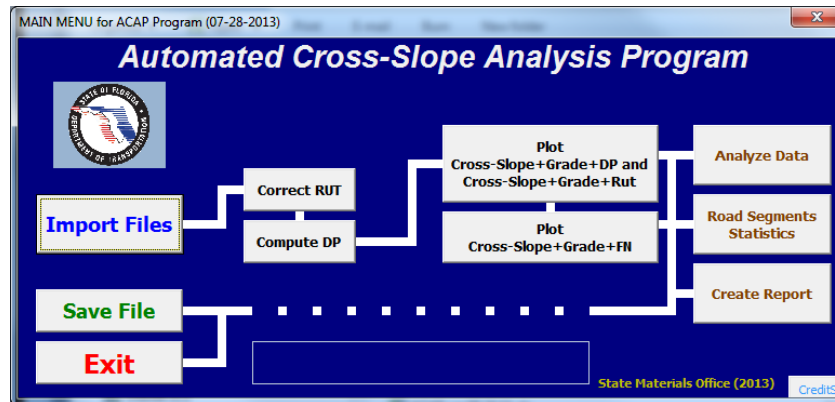
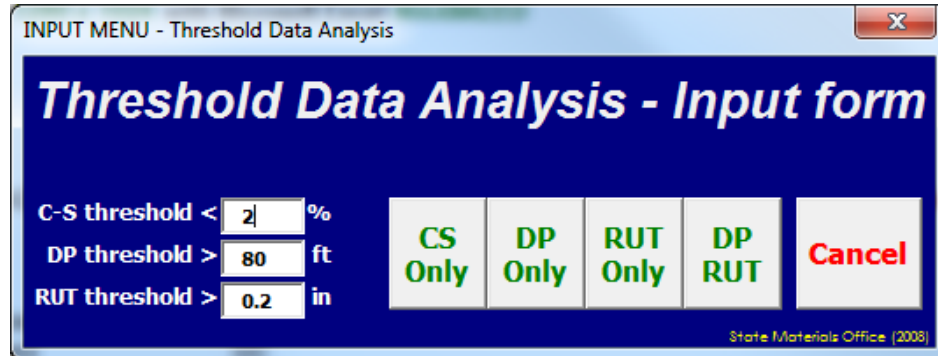
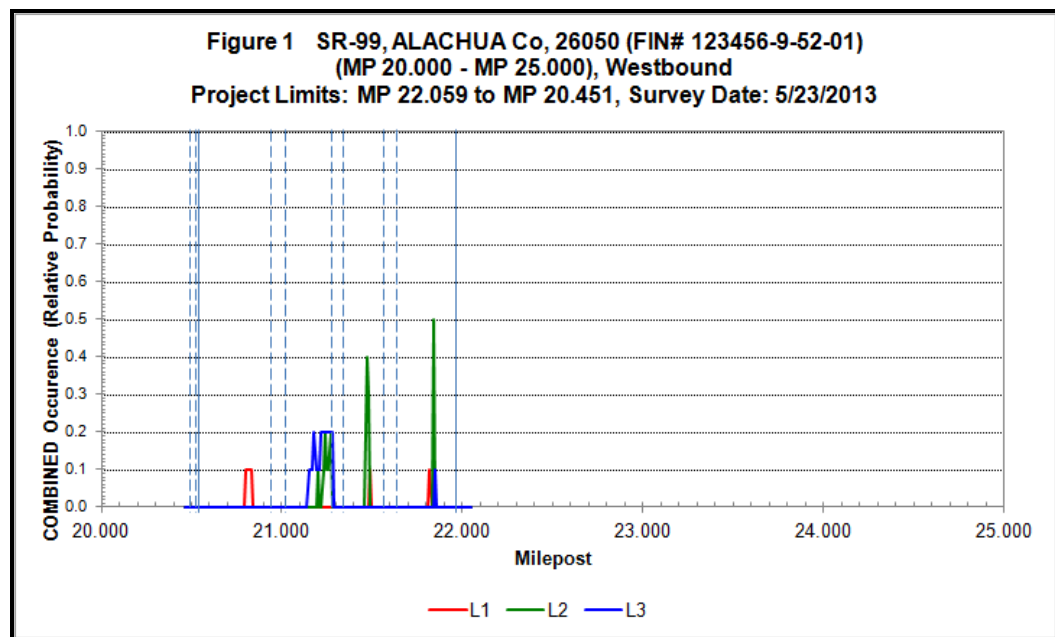

Figure 2. Main Menu of ACAP Program
Figure 5. Data Analysis Input Form
Figure 6. Resulting graph from data analysis based on preset threshold values
4. Click the **START** button inside the main file. The ACAP will load the main menu, as shown in Figure 2.
1. **Threshold Data Analysis** – Click the on the *Analyze Data* radio button from the Main Menu (Figure 2). The **Threshold Data Analysis** input window will appear (Figure 5). Change preset default threshold values, if needed, and use the buttons [CS Only] for cross-slope evaluation, [DP Only] for drainage path evaluation, [RUT Only] for rut evaluation, and [DP RUT] for combined drainage path and rutting evaluation and plot the results based on the preset threshold values. The program generates a plot of areas that exceed user entered threshold values as shown below as shown in Figure 6.
After finishing this step, click on the **Cancel** radio button to return to the Main Menu (Figure 2). Do not click on the  radio button.
2. **Road Segments Statistics** – Click on the **Road Segments Statistics** radio button and the **Road Segment Analysis and Reporting** window, shown in Figure 5, will open.
*Note 4:* The analysis report will show up as a new worksheet tab located at the bottom of the Excel workbook window and will look like the example report shown in Figure 6.
- Click the **Cancel** radio button to return to the previous Main Menu (Figure 2). Do not click Road Segment Statistics menu's  button!